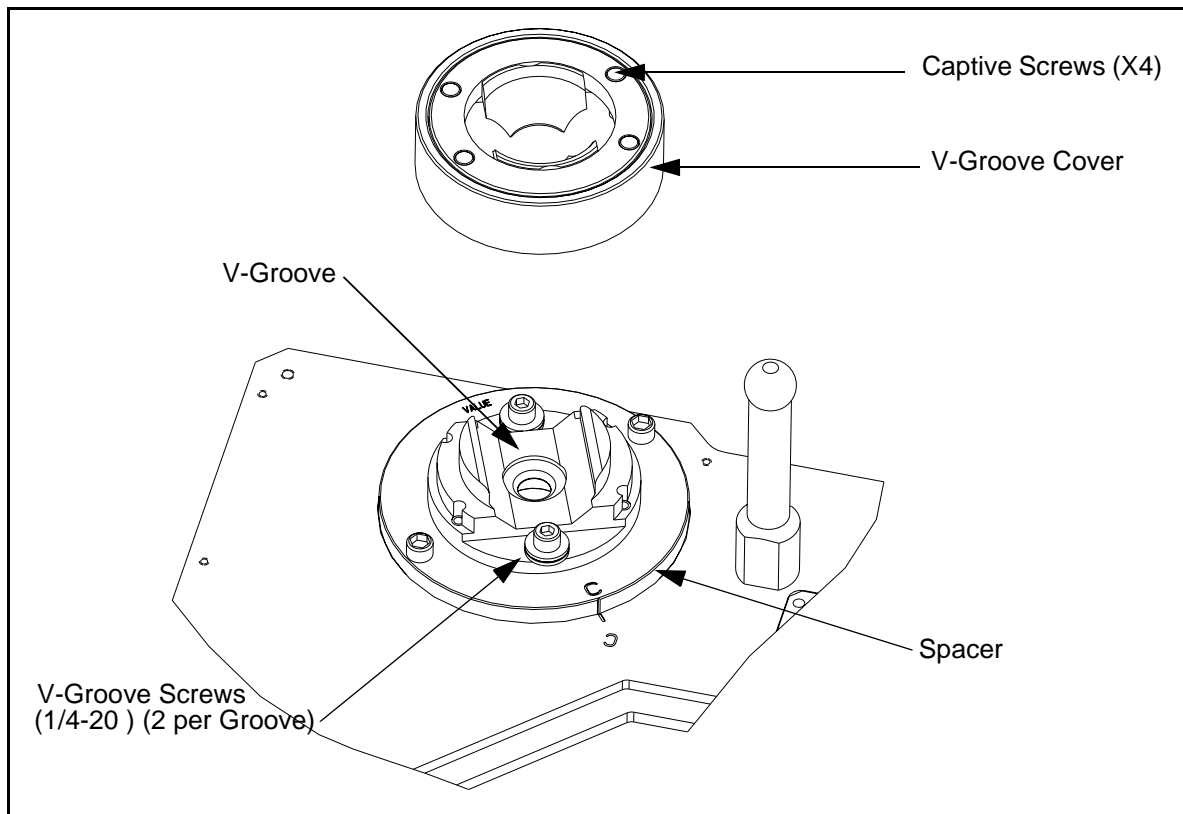

Figure 5 Location of V-Groove Screws (1/4-20)
- 8) Tighten each 1/4-20 V-groove screw to 70 inch-lbs (see Figure 5).
- 11) Reattach the V-groove covers to the V-groove assemblies by fastening (torque 2 inch lbs.) the four captive screws using the 5/64" hex wrench (see Figure 5).